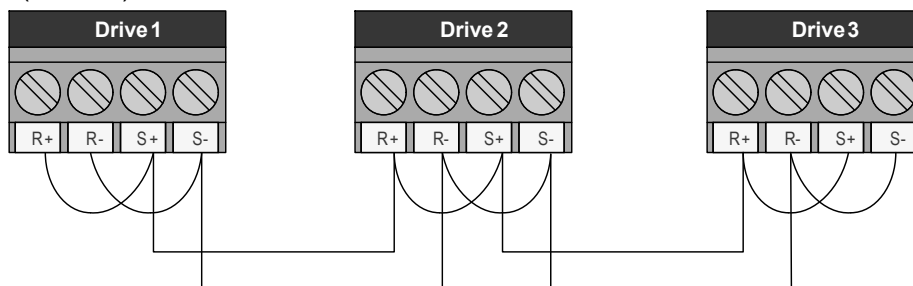

Figure 4.19 Daisy Chain Three Drives
2. Use shielded communication cable for steps 3 and 4 to connect the drives in a daisy chain manner according to Figure 4.19.